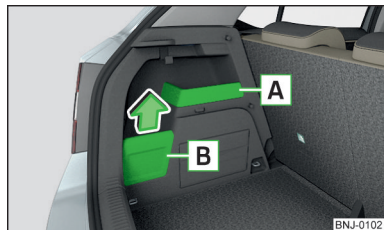

Fig. 99
- Place the item of luggage suspended from a hook, if possible, in the storage compartment **B** » Fig. 99 on page 86, otherwise there is a risk of damaging the storage compartment cover.
- If an item of luggage weighing more than 2.5 kg is suspended on the hook, then we recommend removing the storage compartment cover **B** » Fig. 99 on page 86, otherwise there is a risk of damaging the storage compartment cover.
Storage compartments » Fig. 99
- Remove the cover of the storage compartment **B** in the direction of the arrow » Fig. 99.
The removable storage compartment **A** » Fig. 99 is suitable for stowing small objects weighing up to 1.5 kg in total.